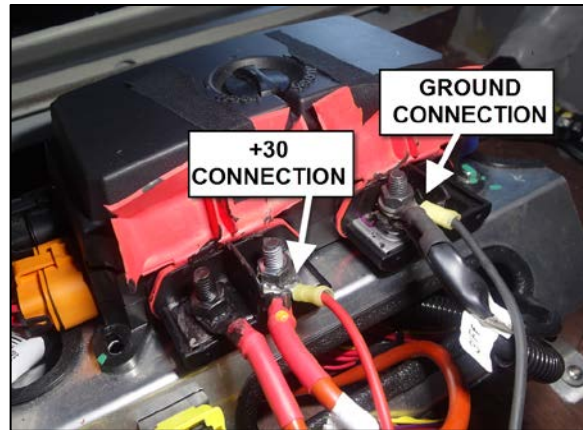

FIGURE 8
12. Connect the red wire with the 3/8" ring terminal to the +30 connection (Figure 8) and tighten the stud nut to torque value between 15 lb-ft and 18 lb-ft.
13. Connect the black wire with the 3/8" ring terminal to the ground connection (Figure 8) and tighten the stud nut to torque value between 15 lb-ft and 18 lb-ft.